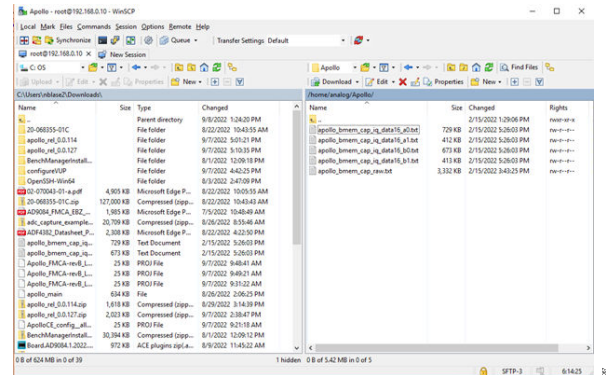

Figure 65. WinSCP Files Storage
3. The full chip example establishes both the transmit and receive links to transmit a signal out of the DACs and to capture signals through the ADC. The signal captured by the ADC is saved as a list of integers (samples) in a **.txt** file, located in **/home/analog/Apollo**. If this directory is not already present on the MicroZed board microSD card, create it manually before running the API examples that store ADC samples. To transfer the captured samples to your PC for further analysis, open WinSCP and drag the files over (see Figure 65).